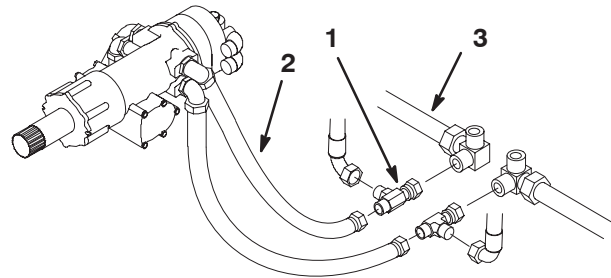

Figure 10
- 12.** Loosen the hose fittings at the Hydrostat. Install two tee fittings between the pressure lines from the Hydrostat and the traction tubes (Fig. 10). Tighten the hose fittings at the Hydrostat.